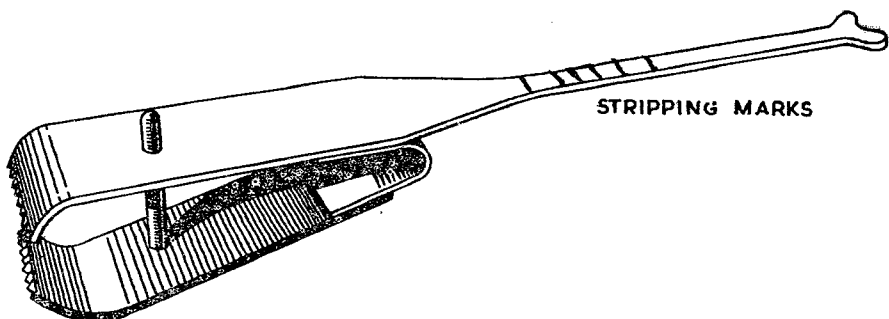

FIG. 1. WIRE STRIPPER FOR INSTALLATION STAFFS.
2.1 A wire stripper, which includes a projecting blade with a small V shaped slot may be used for stripping and terminating wires. The projecting blade may be marked to give stripping lengths for each row of tags on a block etc. Fig. 1 shows a typical stripper.